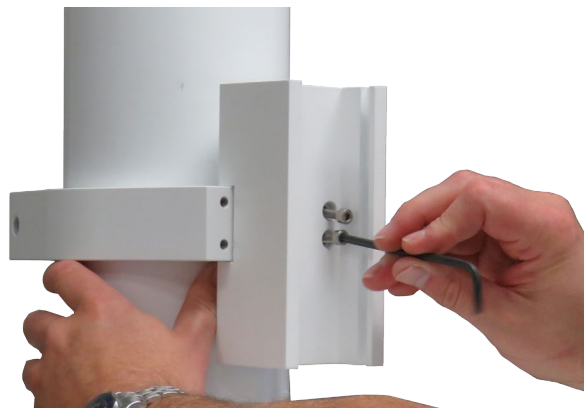

Figure 3. Install the GCX Channel
3. Raise the clamp until the holes in the clamp can be aligned with the holes in the GCX channel. Then use a 4mm Allen wrench to secure the GCX channel to the clamp with the four cap screws. Do not tighten (Figure 3).